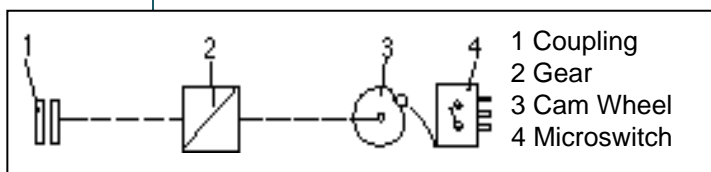

Fig. 2 Block Diagram (Alarm Transmitter)
Fig. 2 shows the transmitter operating principle. The drive shaft connected to the tank level gauge via the coupling (1) adjusts one or more cam wheels (3) via a single wormgear (2). The cam wheels actuate microswitches (4) according to the limiting values set. The switching conditions thus generated are subsequently processed as high/low level information.